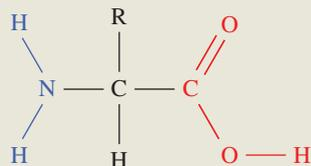

FIGURE 12.1.15 General structure of an amino acid
- 2-Amino acids have the structure shown in Figure 12.1.15.
- Amino acids contain a carboxyl group ($-\text{COOH}$, highlighted in red in Figure 12.1.15), an amino group ($-\text{NH}_2$, highlighted in blue in Figure 12.1.15), a hydrogen atom and a side chain called the R group, all bonded to the same carbon atom.